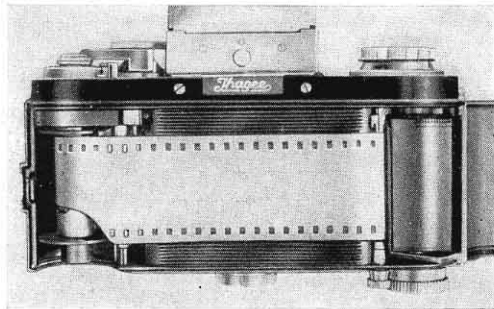

Fig. 33
The film must run perfectly straight and flat on the film track and engage properly both sprockets (31) (Fig. 33).